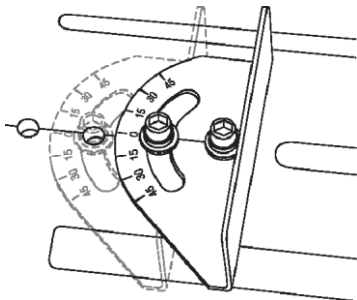

Fig 7
1. Remove the front and rear mitre gauge cap screws using the 8 mm hex key supplied. (Fig 7)